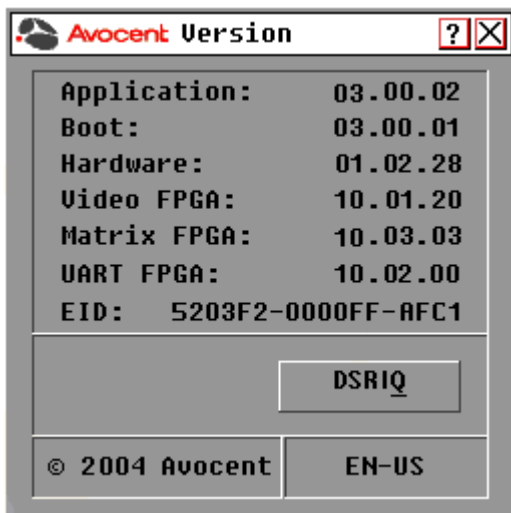

Figure 3.19: OSCAR Interface Version Dialog Box
2. Click *Commands - Display Versions* to open the Version dialog box shown in Figure 3.19 on page 46. The top half of the box lists the subsystem versions in the DSR2035/8035 switch.